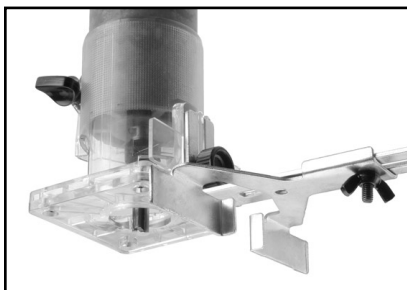

Figure 7. Straight guide installation.
1. Slide the straight guide onto the base plate as shown in **Figure 7**, then set the guide height and tighten the lock knob.